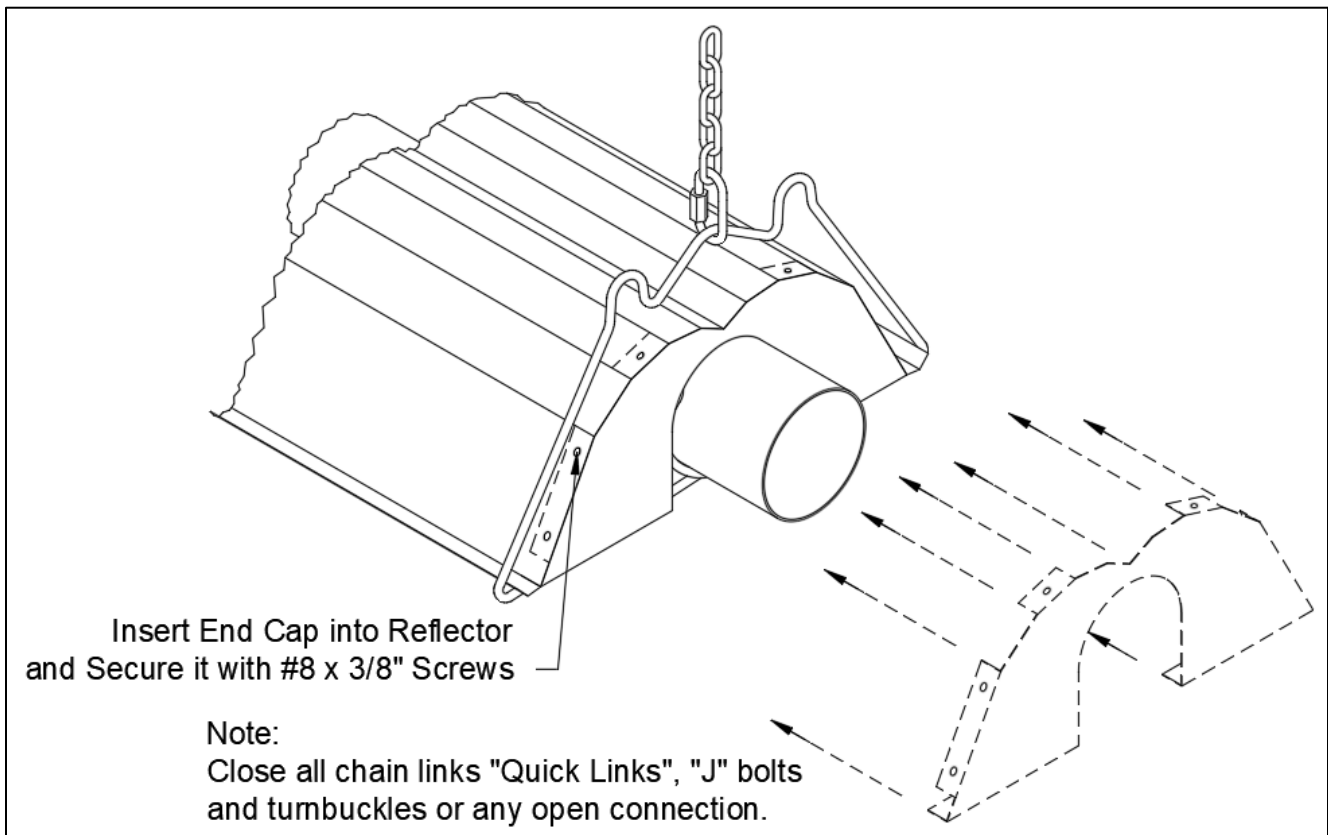

Figure 18: Reflector End Cap Installation
- Install End Cap as shown in Figure 18